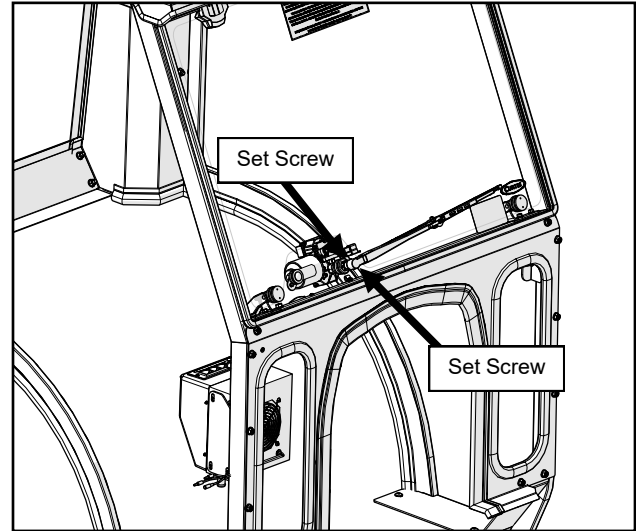

Fig. 17.3 (Wiper Arm and Blade)
- 17.3 Install the wiper arm onto the wiper motor so that the wiper is horizontal. See Figure 17.3. Tighten the Allen Screws.